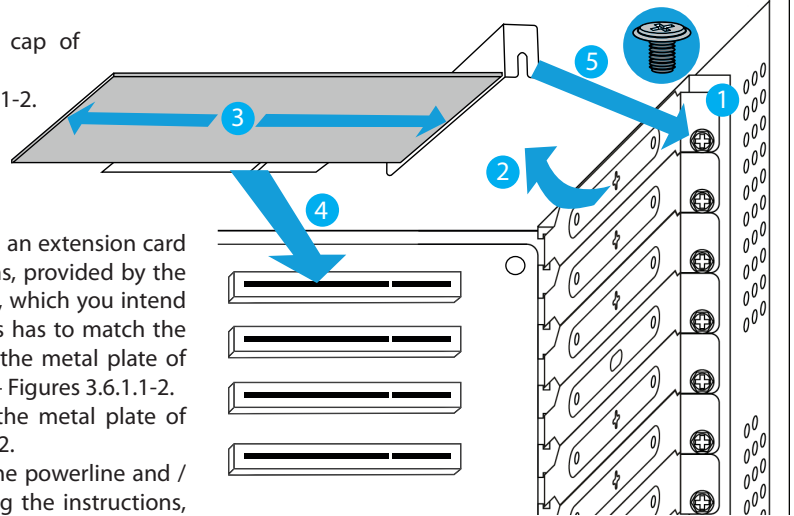

Figure 3.6.1.1.
1. Unscrew the Phillips bolt with flange, fixing the cap of extension card slot – Figures 3.6.1.1-2.
2. Remove the cap of extension card slot – Figures 3.6.1.1-2.
4. Insert into the PCI or PCI-E slot on the motherboard, an extension card (e.g. graphics card), strictly following the instructions, provided by the manufacturer of your motherboard and / or devices, which you intend to connect. The placement of installed device's slots has to match the direction of the previously unscrewed cap, so that the metal plate of extension card can be screwed to the server chassis – Figures 3.6.1.1-2.
5. Screw Phillips bolt with flange back, to firmly fix the metal plate of extension card to the server chassis – Figures 3.6.1.1-2.